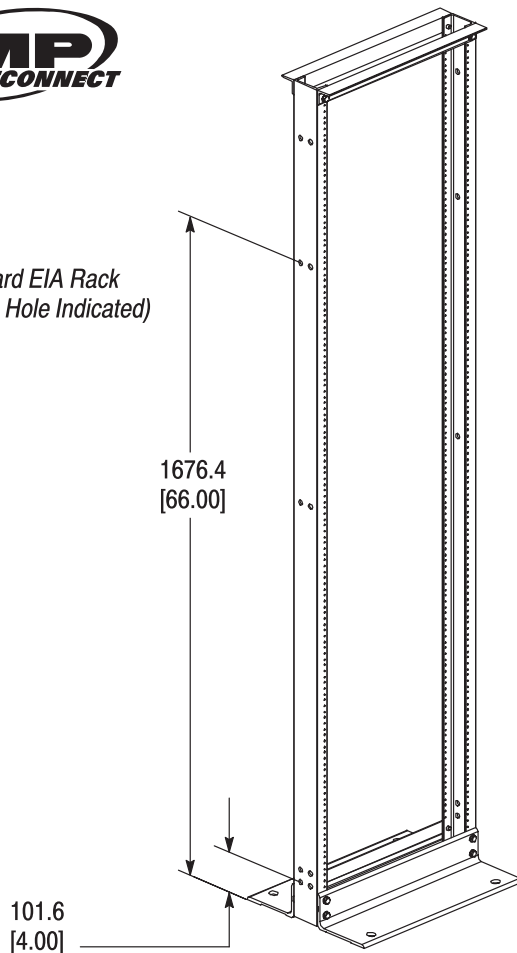

Figure 1
1. Mount the rack to the floor using the appropriate method. Remove the doors from the cable managers if they have been installed. The cable manager attaches to the rack utilizing the rack holes at 101.6 mm [4.00 in.] and 1676.4 mm [66.00 in.] above the bottom of the rack. See Figure 1.